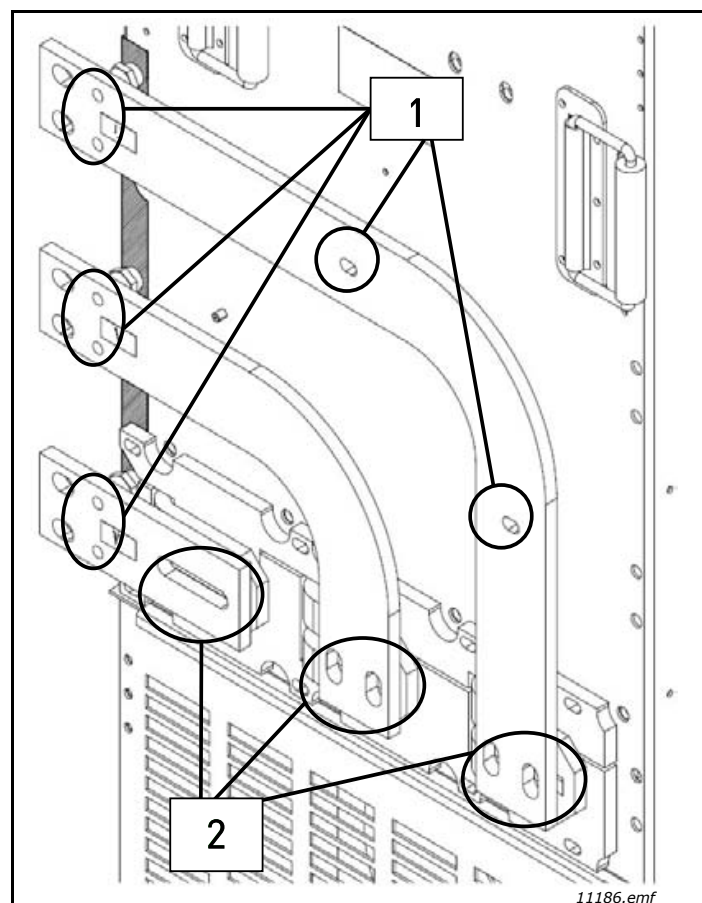

Figure 34. Left-side connection
5. Place the busbars like in Figure 34.
6. Close fastenings numbered by 2 in Figure 34.
7. Close fastenings numbered by 1 in Figure 34.